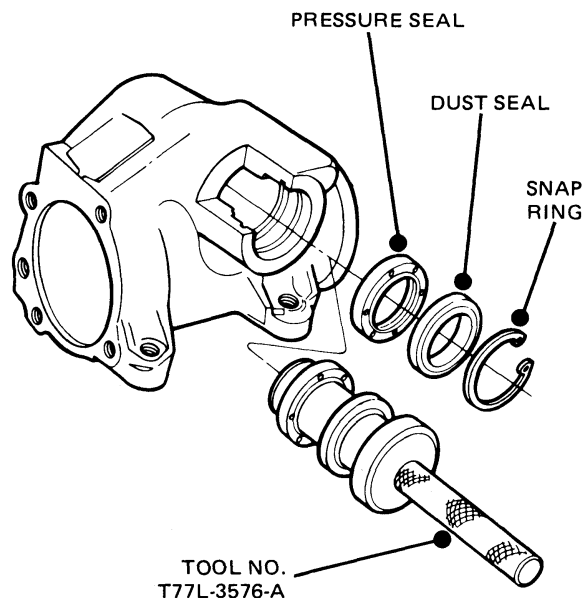

FIG. 6 Installing Sector Shafts Seals
6. Place the dust seal on tool T77L-3576-A or equivalent, so the raised lip of the seal is towards the tool (Fig. 6).